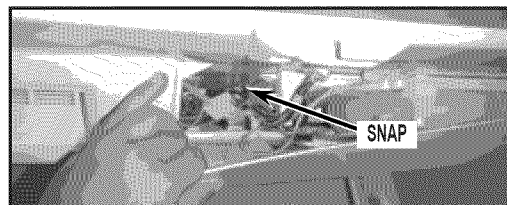

FIGURE 7
9. Disengage rear left snap. See *Figure 7*.